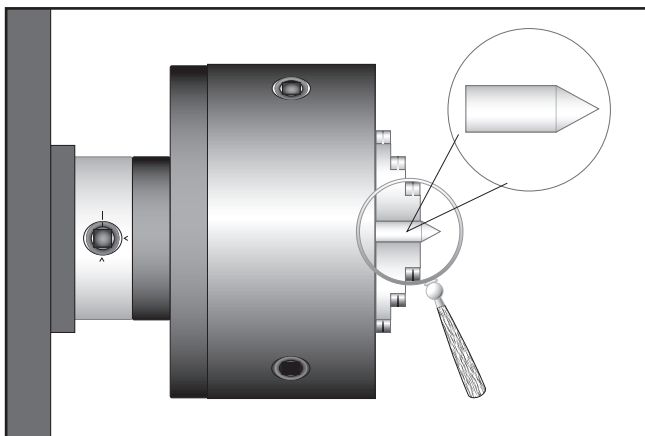

Figure 38. Turning a dead center.
3. Use the other piece of round stock to make a dead center, and turn it to a 60° point, as illustrated in **Figure 38**.